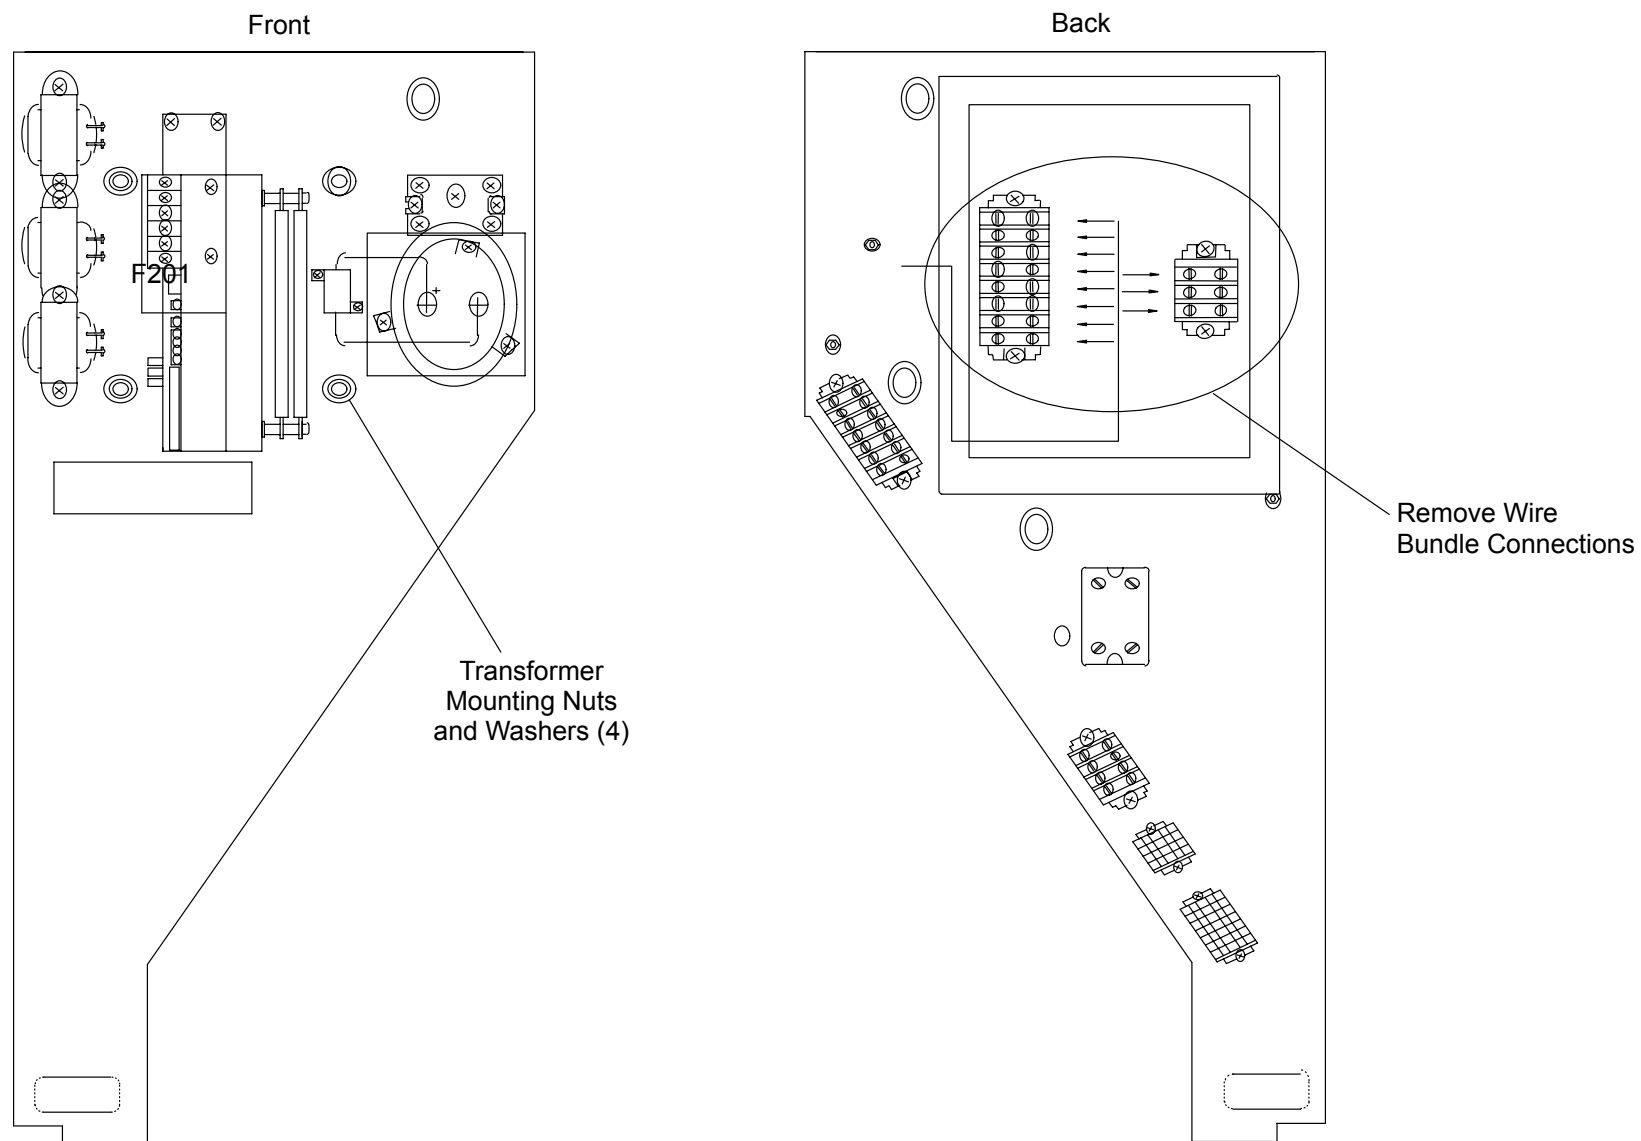

FIGURE 284 3 KVA Transformer Mounting and Connections
4. Tag and remove all connections from the load side of the Transformer Terminal Strip. See Figure 284.
5. Loosen the top two Transformer Mounting Nuts and remove the Bottom two Nuts and Washers. Refer to Figure 284.